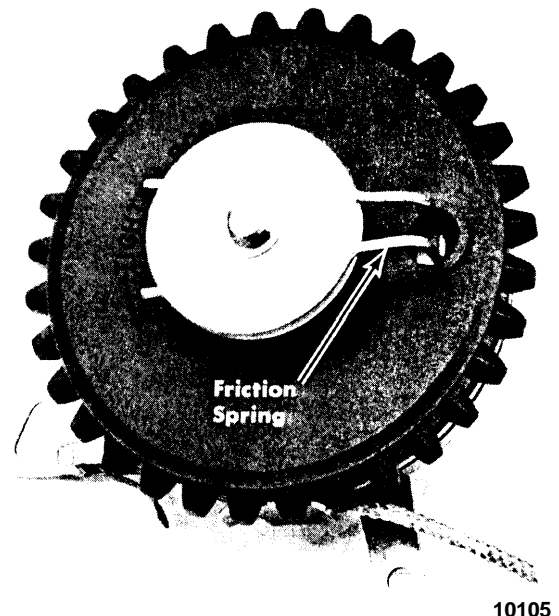

Figure 3. Rewind Starter Assembly
26. Loosen bolt (left hand thread), that retains rewind starter plastic friction disk, and check for washer between disk and center post. Remove friction spring and discard. (Figure 3) This makes the starter an inertia system and eliminates the possibility that pinion will bounce back